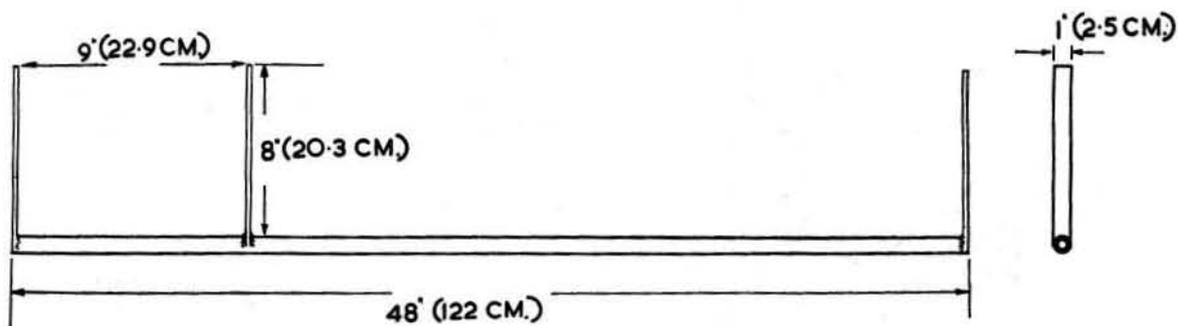

Fig.7.7. Jig for checking alignment of divided propeller shaft
- 1 Make up a jig to the dimensions shown in Fig.7.7. We made up a jig, using materials ready to hand which did the job admirably. It consisted of a length of wood 3" x 1½" (but any size of wood will do as long as it is not flexible), into the edge of which was knocked three 6" nails, to a depth of about 1", at the spacing shown on the drawing, this meant that the 8" vertical dimension was undersize but clearance proved to be adequate. The nails were checked for vertical alignment and then a straight edge was placed along the heads to make sure that they were aligned in the horizontal plane.